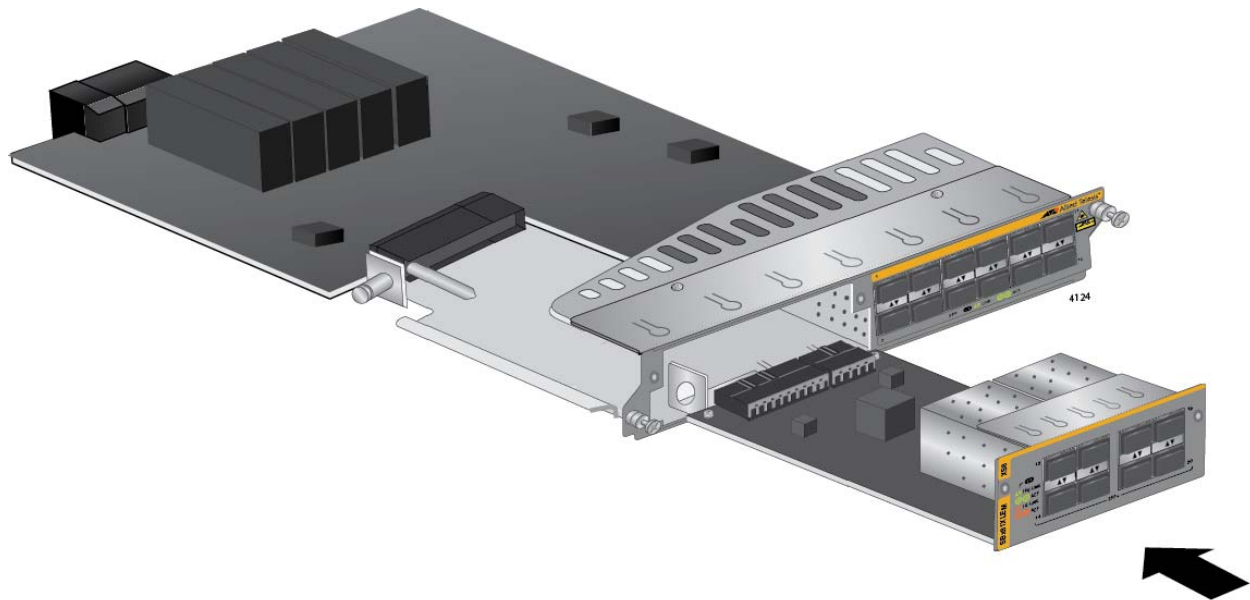

Figure 77. Sliding the Expansion Module into the AT-SBx81XLEM Line Card
- Carefully align the expansion module in the slot, as shown in Figure 77, and slide it into the line card.